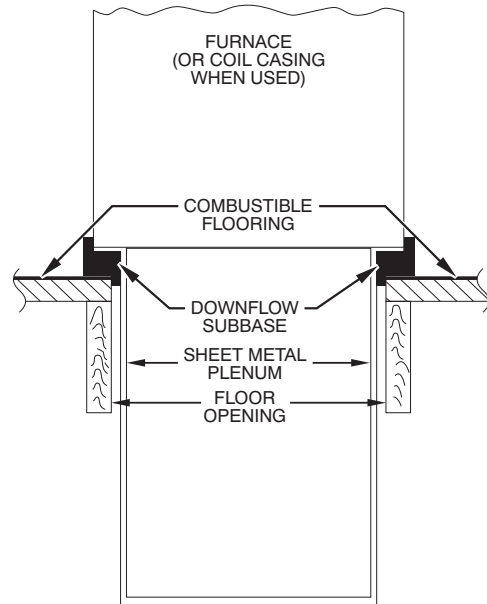
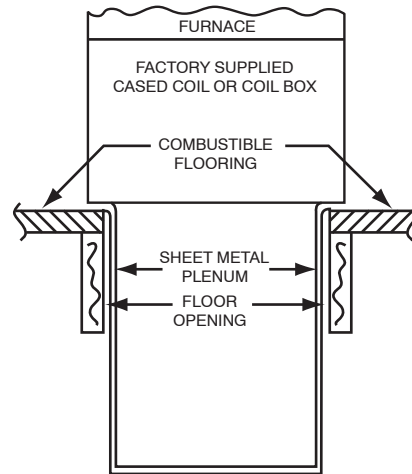

Fig. 22 - Furnace, Plenum, and Subbase Installed on a Combustible Floor
Fig. 23 - Furnace, Plenum, and Coil Assembly or Coil Box Installed on a Combustible Floor
4. If downflow subbase (KGASB) is used, install as shown in Fig. 22. If Coil Assembly Part No. CAP, CAR, CNPV, CNRV or Coil Box Part No. KCAKC is used, install as shown in Fig. 23.